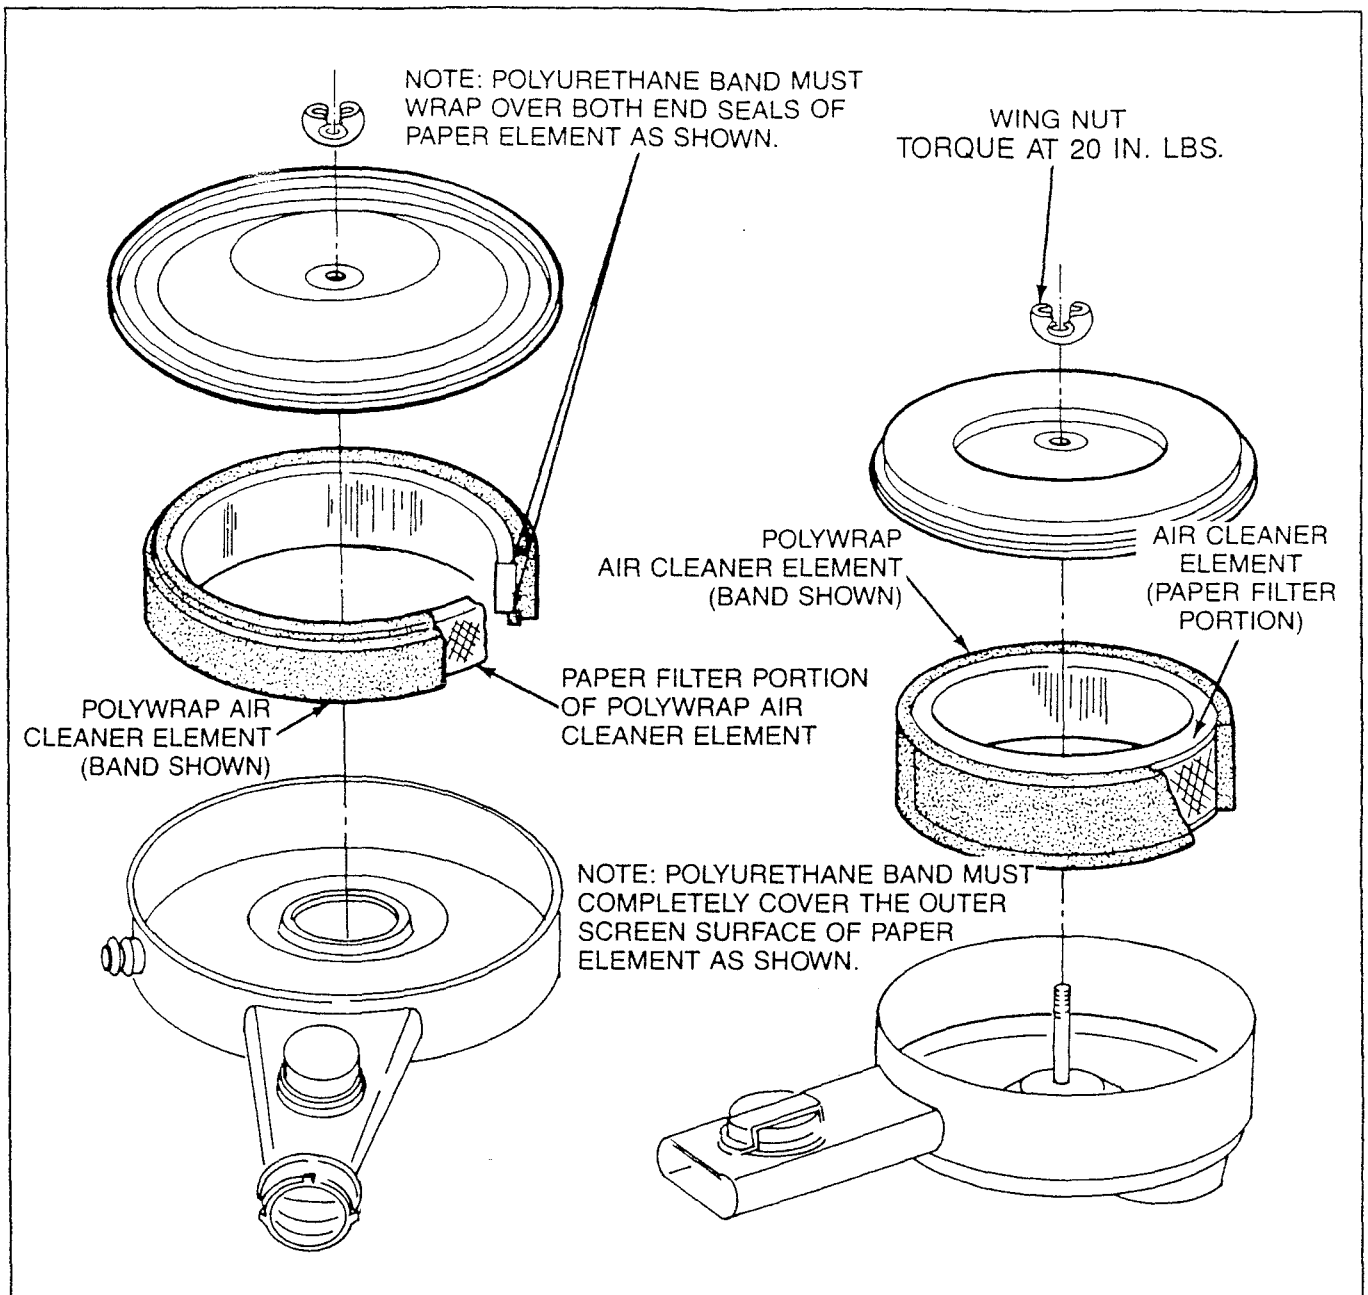

Figure 7-52 — Polywrap Air Cleaner
3. Remove the polywrap band from the paper element and discard the element (Figure 7-52).